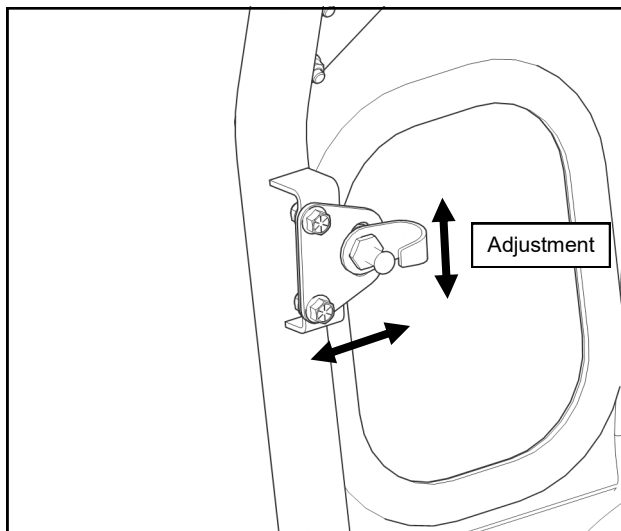

Fig. 28.3 (Striker Pin Adjustment)
- 28.3** See fig. 28.3. Stand back and examine the alignment of the door with the roof and the A-pillar. You can adjust this by moving the striker pin up or down as shown to help with alignment. *TIP: In the final step, the front of the door will drop a small amount the first time you open it. Set the front of the door a little bit higher so it aligns properly.* Adjust as necessary until you are happy with the alignment. Have an assistant sit inside the cab and once more carefully close the door like you did in step 28.2. Work with the assistant and tighten the hinge bolts.
- 28.4** Open the door and check for smooth operation of the latch. As noted in step 28.3, the door will likely drop a little bit at the front and the striker pin will need to be adjusted down accordingly. Also make sure the door seal is making contact along the perimeter of the door and the latch clicks twice when closing. If necessary, adjust the striker in or out to achieve this (see Figure 28.3).